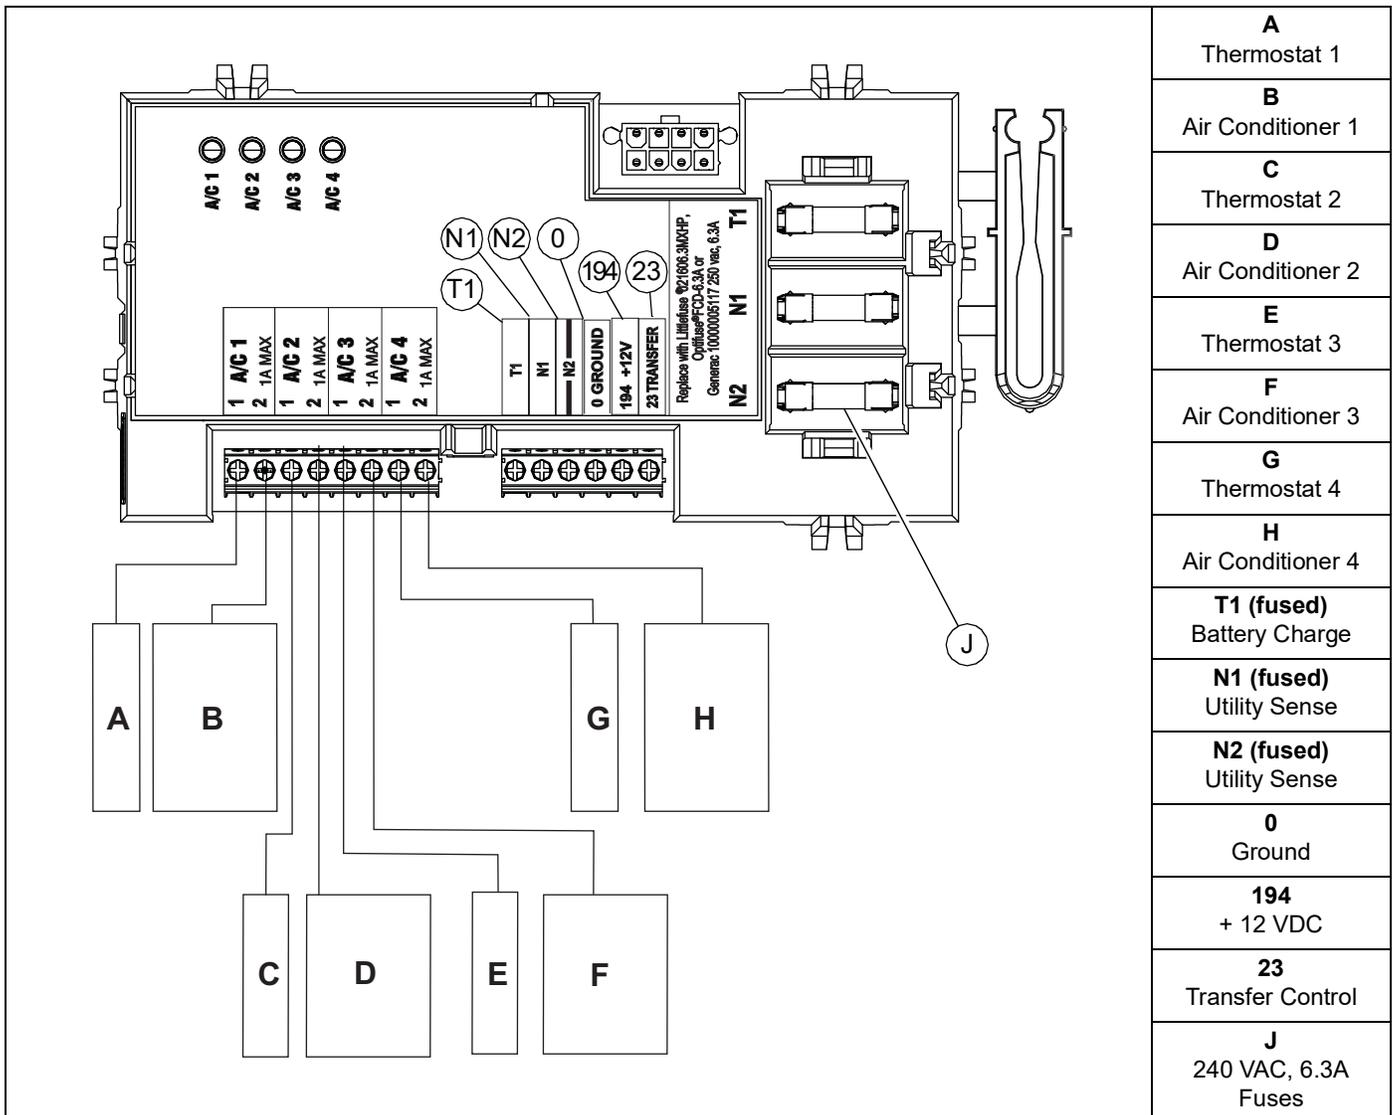

Figure 3-6. Typical SACM Connections
NOTE: To simplify installation, Generac Composite Tray Cable control wiring color codes match the label on the SACM control module shown in **Figure 3-6**.
See **Figure 3-6**. The SACM can control an air conditioner (24 VAC) directly.
2. Connect the wire to the terminal strip terminals (A/C 1) on the SACM as shown in **Figure 3-6**. These are normally closed contacts which open upon load shed conditions. Route thermostat wire away from high voltage wires.